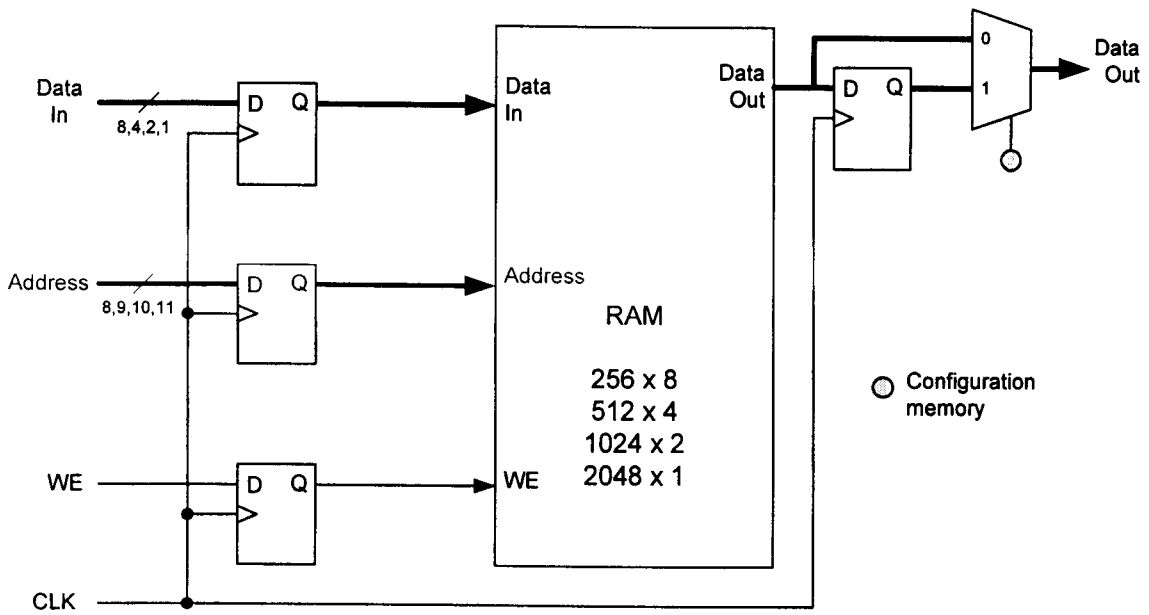

Figure 3.2
b) Figure 3.2 depicts a Embedded Array Block (EAB) found in the Flex10K family of FPGA. Each EAB can be configured as 2048 x 1, 1024 x 2, 512 x 4 or 256 x 8 block of RAM. The data output can be registered or unregistered depending on how the EAB is configured as shown in Figure 3.2.
- (iii) Explain why one may want to register the output data from the EAB memory as shown in Figure 3.2.